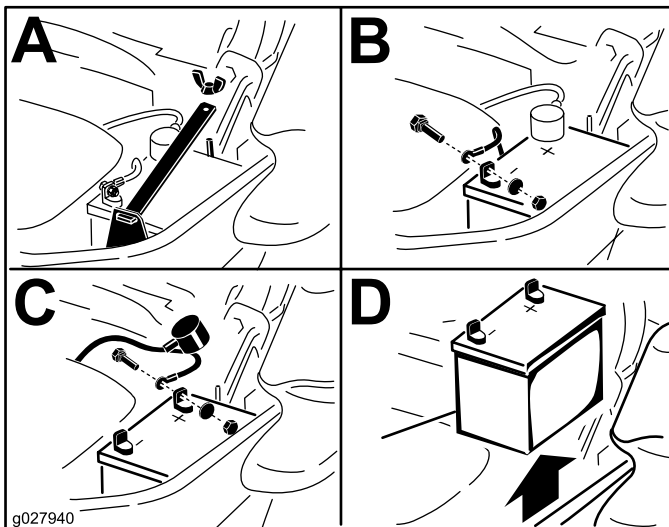

Figure 58
3. Disconnect the negative battery cable (black) from the negative (-) battery terminal (Figure 58).
4. Slide the red terminal boot off the positive (red) battery terminal, and remove the positive (+) battery cable (Figure 58).
5. Remove the wing nut securing the battery clamp (Figure 58).
6. Remove the clamp (Figure 58).
1. Position the battery in the tray with the terminal posts opposite from the hydraulic tank (Figure 58).
4. Secure the cables with 2 bolts, 2 washers, and 2 locknuts (Figure 58).
6. Install the clamp and secure it with the wing nut (Figure 58).